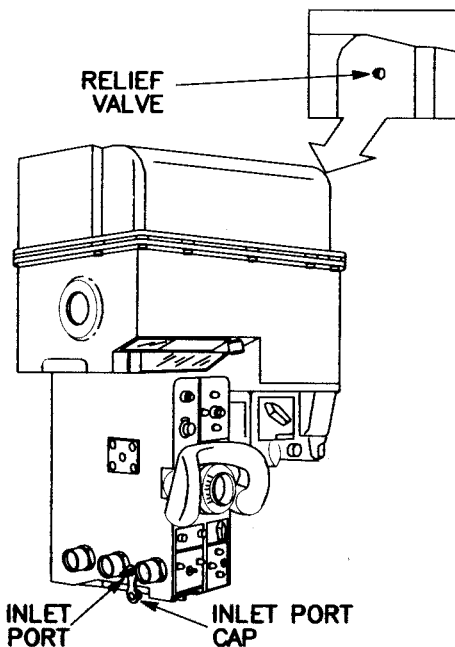

Figure 3-58 Gunner's Primary Sight PN 12282140, PN 12549761-2, PN 12549761-3, PN 9377279-2
(1) Perform purging and charging procedure para 2-5.a.
(2) Purge instrument at 8 psig for 10 minutes.
(3) Ensure relief valve closes at 5 psig.
(4) Leak test for a minimum of 5 minutes.
h. Gunner's Primary Sight, PN 12282140, PN 12549761-2, PN 12549761-3, and PN 9377279-2 (fig. 3-58).